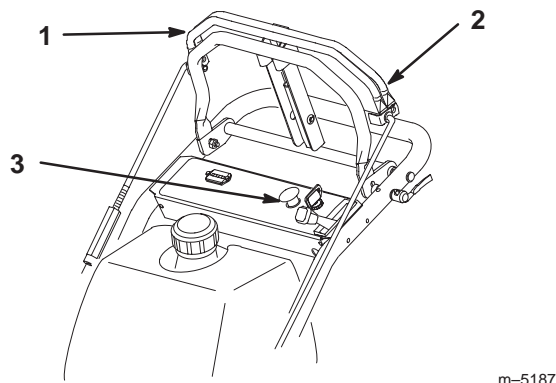

Figure 13
1. Release the upper control bar to stop the machine (Fig. 13).
2. To engage blade, squeeze blade control bail against upper control bar (Fig. 13).
1. Release blade control bail to disengage blades (Fig. 13).